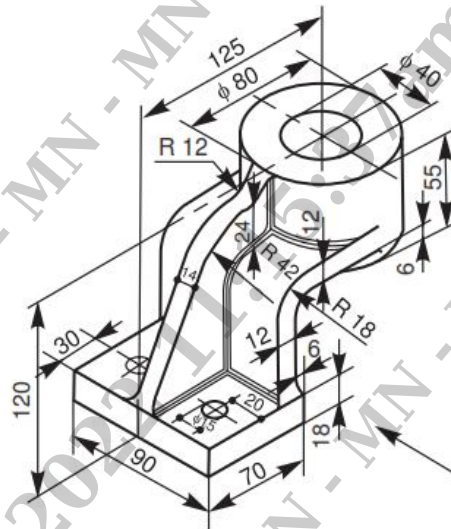

Figure. 1: Bearing bracket
1. Draw (i) the sectional view from the front and (ii) the view from above of a bearing bracket shown in Fig. 1 **25 Marks**